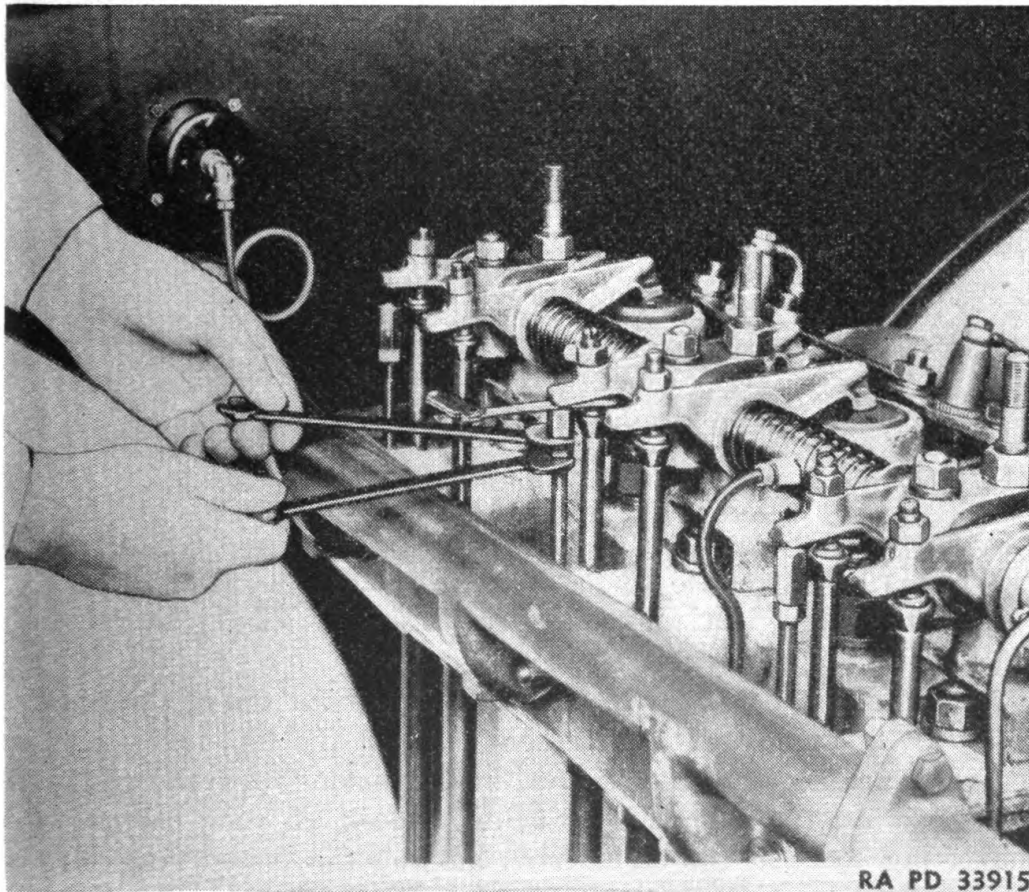

FIGURE 26.—Compression release adjustment.
- (1) Adjust valves in the firing order of engine.
- (2) Crank engine in the direction of normal rotation until the inlet valve closes, then give the engine one-third additional turn and adjust both valves at the same time.
- (3) Loosen valve adjusting screw nut on valve rocker.
- (4) Turn screw to obtain correct clearance between the top of the valve sleeve and the end of the valve rocker.
- (5) Set this clearance for the exhaust and inlet valves at .012 inch.
- (6) Recheck adjustment after adjusting screw nut is tightened.
- g. Compression release adjustment.*—After adjusting the exhaust valve clearance and while the release lever is still in the “run” position, check clearance between the upper end of compression release push rod (fig. 26) and the tail of the valve rocker. This clearance should be .025 inch to .030 inch. To adjust the compression release, loosen lock nut on compression release push rod and turn adjusting nut until the correct clearance is obtained. Recheck adjustment after lock nut is tightened. Check this clearance every time the exhaust valve clearance is changed or checked.